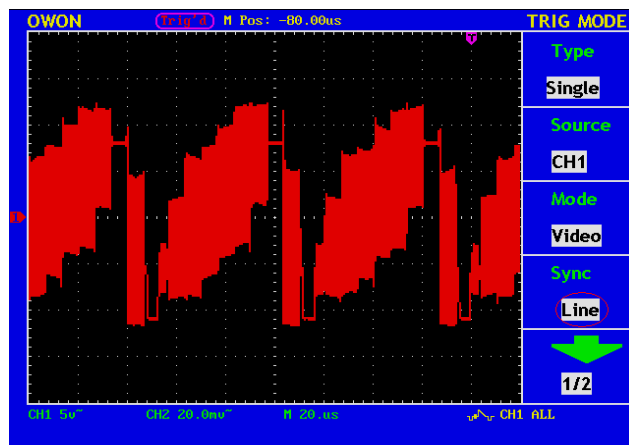

Fig. 48 Video field trigger Oscillogram
- 5、 Press F4 to choose synchronization as "Line" (refer to Fig.48)